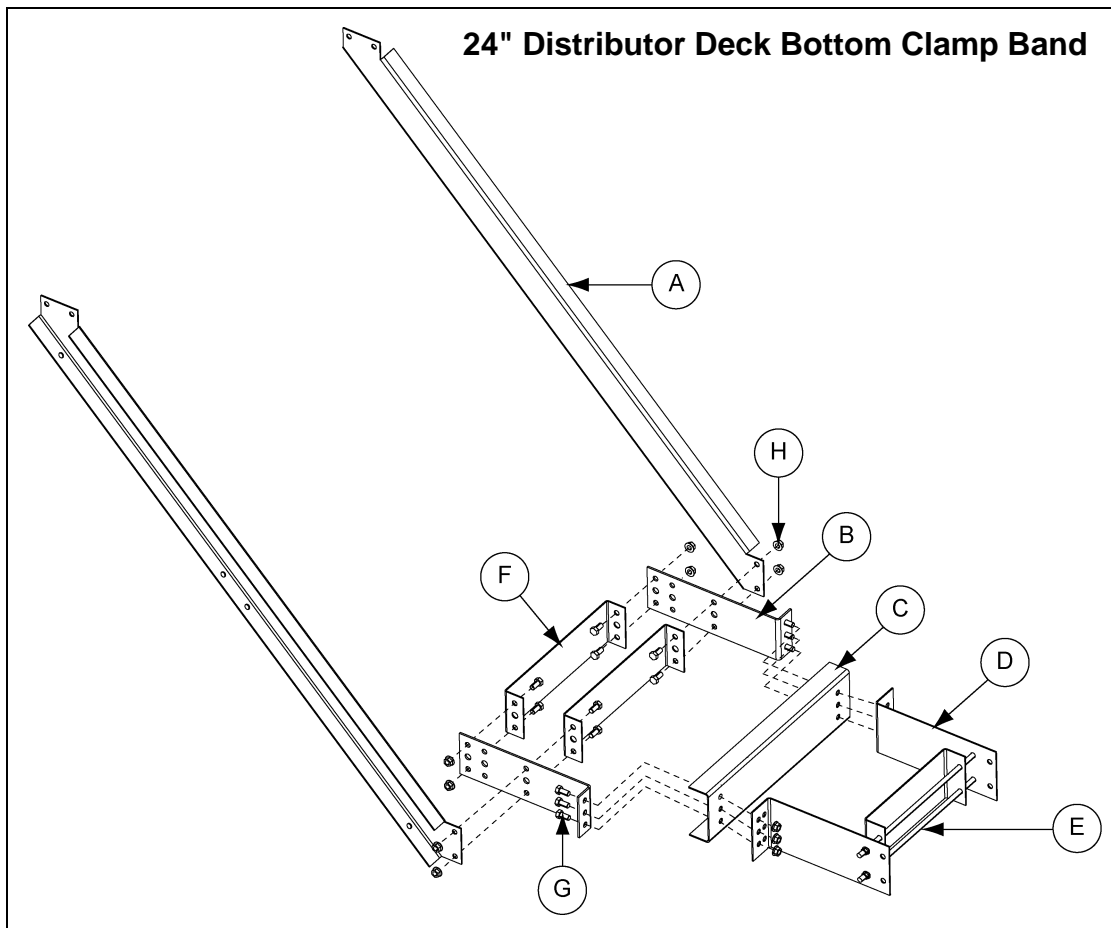

Figure 10D
1. Slide rods of clamp rod weldment into inside set of holes of clamp bands for 16" assembly. Fasten together using four (4) 1/2" hex flange nuts.
2. Orient the brace channels so the bends face outwards and line up the brace channel holes with the holes located near the middle of the 16"-24" long clamp clips. Line up the clamp strut with the same set of holes as the brace channel and 16"-24" long clamp clip. Fasten all five (5) together using four (4) 1/2" x 1" bolts and nuts. Attach remaining clamp strut to the end of the 16"-24" clamp clip. Tighten only finger tight. (See Figure 10D.)
3. Assemble the clamp rod weldment, clamp channel and brace channel assembly at same time around the trunking. Place clamp rod weldment assembly around the trunking leg and line up holes on 16"-24" long clips and clamp channel with the **outside set of holes** on the clamp rod weldment. Fasten all three (3) together using six (6) 1/2" x 1" bolts and nuts.